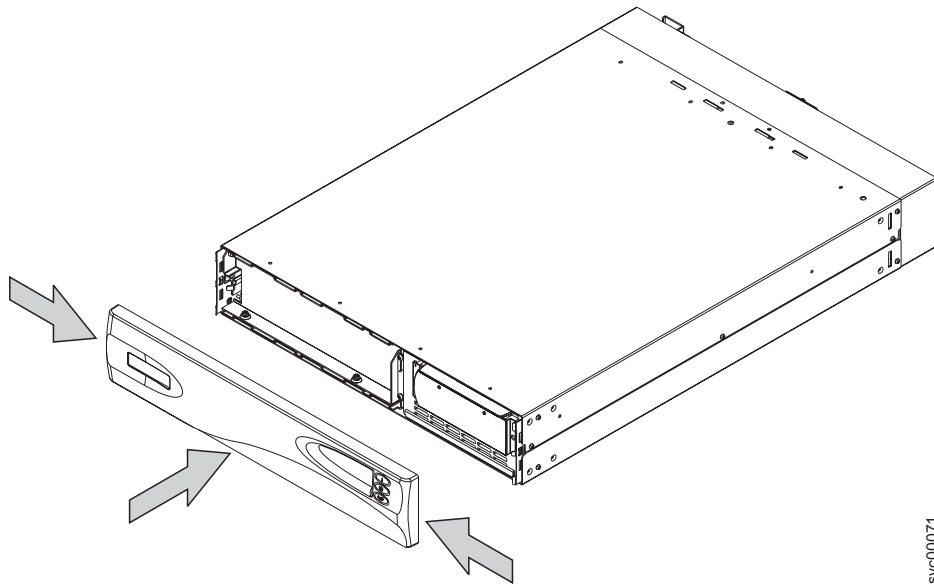

Figure 269. Replacing the 2145 UPS front panel
3. Replace the front panel by pressing the sides inward and pushing both ends towards the 2145 UPS, as shown in Figure 269 on page 272.